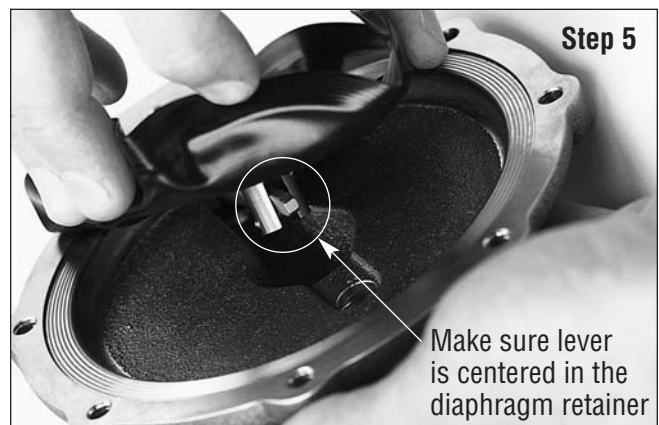

Figure 26 - Slide the Diaphragm Assembly onto the Lever .
5. Slide the diaphragm assembly onto the lever as shown below. The lever must rest on the pivot pin. Rotate the Diaphragm Assembly to locate the lever in the center of the Diaphragm Retainer. The lever must be centered to prevent binding. No lubrication on the pivot pin is necessary (refer to Figure 26).